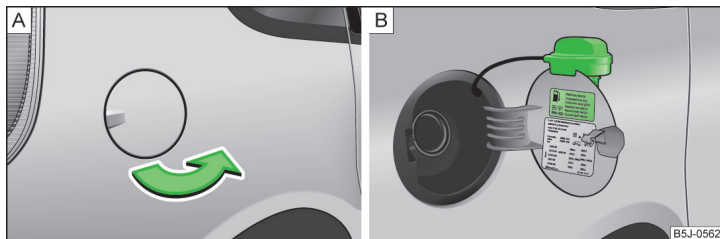

Fig. 131 Open fuel filler flap / tank cap
The correct grades of fuel for your vehicle are stated on a sticker affixed to the inside of the fuel filler flap » Fig. 131 on page 143 - .
- Open the fuel filler flap with one hand » Fig. 131 - **A**.
- Unscrew the filler cap by turning it anticlockwise and clip the cap on the top of the fuel filler flap » Fig. 131 - **B**.